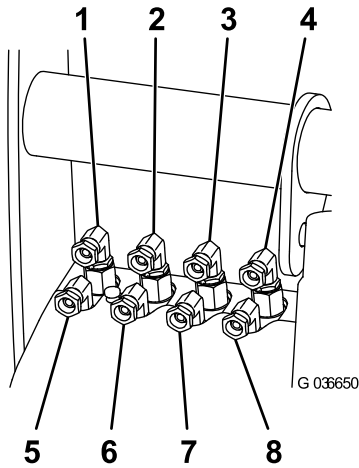

Figure 9
Refer to Figure 9 when installing the hoses to the hydraulic shelf.
1. Connect a 1.8 m (73-1/2 inch) hose to the XL2 port on the hydraulic shelf, and a 1.5 m (59-1/2 inch) hose to the XL1 port (Figure 9). Turn the fitting until it is finger tight, then turn it another 1/4 to 1/2 turn.